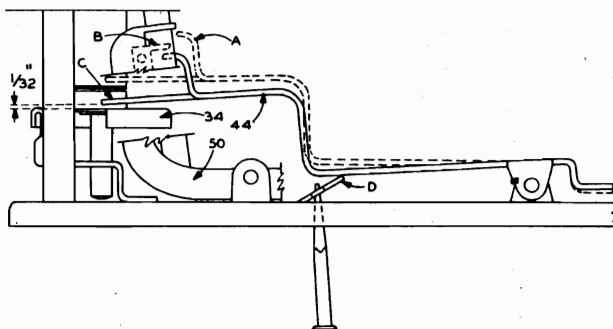

Fig. 8
1. Bend the elevated hook "A", Fig. 8 forward so that it will overlap the Push Off Post bracket "H" about $\frac{1}{32}$ " with a record on the spindle.